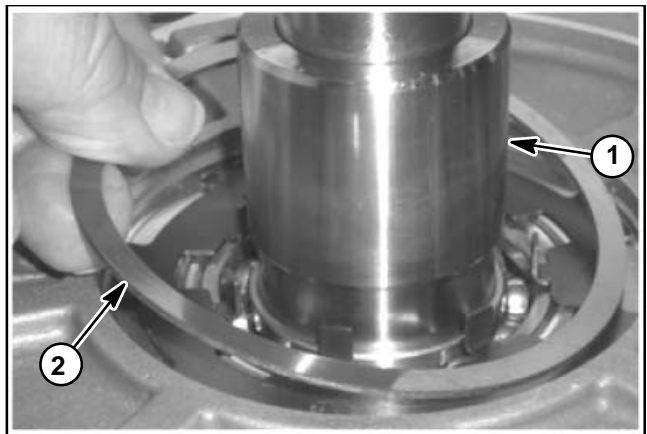

Figure 19
14. Remove the gear spacer from the cover plate (Fig. 19).